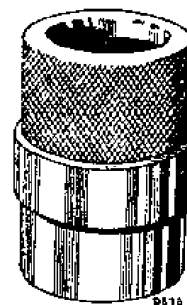

Fig. 6.
A gauge is required of the type shown in fig. 6 (Code No. 09.991.022). Remove the cone and place the gauge in the air-gap. Now mark out the internal circumference of the cone-holder as well as possible on the front plate (item 107), unscrew the nuts of the three bolts and stand the loudspeaker on the back plate (bearing in mind point 2). When mounting, do not withdraw the gauge, fig. 6, from the air-gap until the three draw-bolts have been securely tightened.